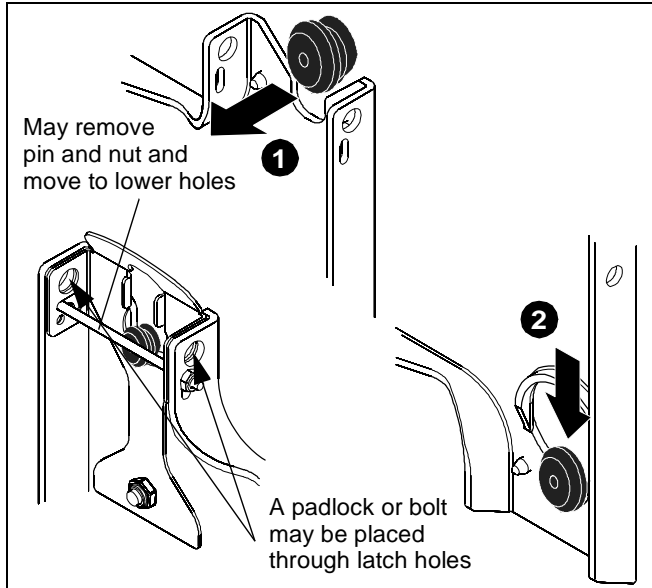

Figure 4
2. Lower each display into place listening for audible "click" to ensure recessed area of mounting buttons are properly seated in lower area of mounting holes.(See Figure 4)
NOTE: Holes are provided in the faceplate for use with a padlock or similar locking device, if desired. In addition, the pin and nut may be removed from the upper holes and moved to the lower holes for use as a more permanent locking device. (See Figure 4)